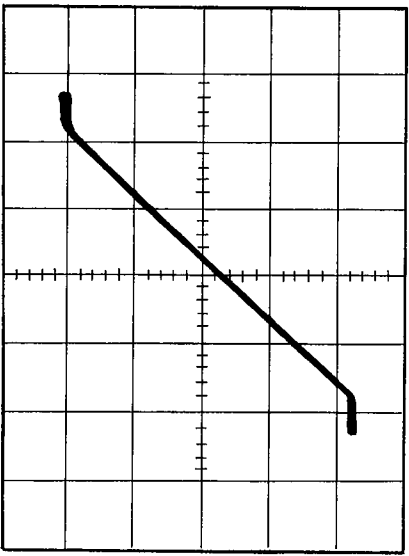

Figure 5. Oscilloscope X-Y Display Showing Clipping
4. Turn on the amplifier and increase the output of the audio generator, until clipping occurs, as displayed on the oscilloscope. See Figure 5.